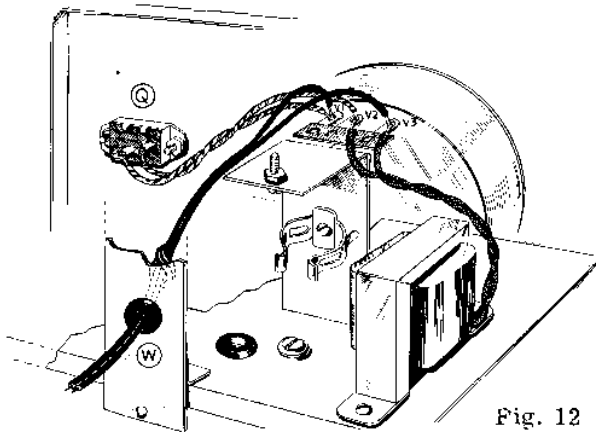

Fig. 12
- () The free end of the $2\frac{1}{2}$ " length of wire on L1 connects to G3 (S).
- () Connect a 47K resistor from L2 (S) to D2 (S).
- () The free end of the $2\frac{1}{2}$ " length of wire to L3 connects to G8 (S).
- () Connect one free lead of the $3\frac{1}{2}$ " twisted pair which is on pilot light M to G9 (S).
- () Connect the other free lead of the pilot light $3\frac{1}{2}$ " twisted pair to G4 (S).
- () Pass the free end of the 5" length of wire on P14 through grommet E and connect it to F3 (S).
- () Pass the free end of the $4\frac{1}{2}$ " length of wire on R18 through grommet E and connect it to solder lug C (S).
- () Study Figure 12 and connect one free lead of the 4" twisted pair which is on the OFF-ON switch (location Q) to V1 (NS).
- () Connect the other free lead of the OFF-ON switch 4" twisted pair to V2 (S).
- () The free end of the $2\frac{1}{2}$ " length of wire on P1 connects to K3 (S).
- () Run a short bare wire jumper from P3 (S) to J3 (S).
- () Run a wire from T1 (S) to the insert solder lug of black banana jack in location S (S).
- () Connect a 3.3 Megohm resistor from P10 (S) to G2 (S).
- * () The outside foil lead of the .01 MFD condenser connects to H5 (S) and its other lead goes to P8 (S).
- () Reversed Diodes; the outside foil lead of the .01 MFD condenser connects to (use spaghetti) H3 (S) and its other lead goes to P8 (S).
- () Note Figure 12 and pass a $3/8$ " rubber grommet through the hole in location W.
- () Split the line cord slightly and connect one lead to V1 (S).
- () Connect the line cord's other lead to V3 (S).